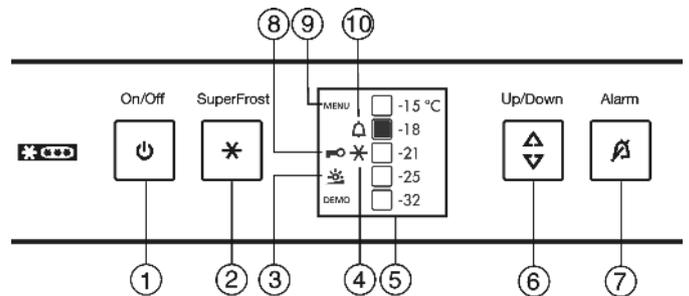

Fig. 3
- The SuperFrost symbol *Fig. 3 (4)* flashes together with the temperature display.